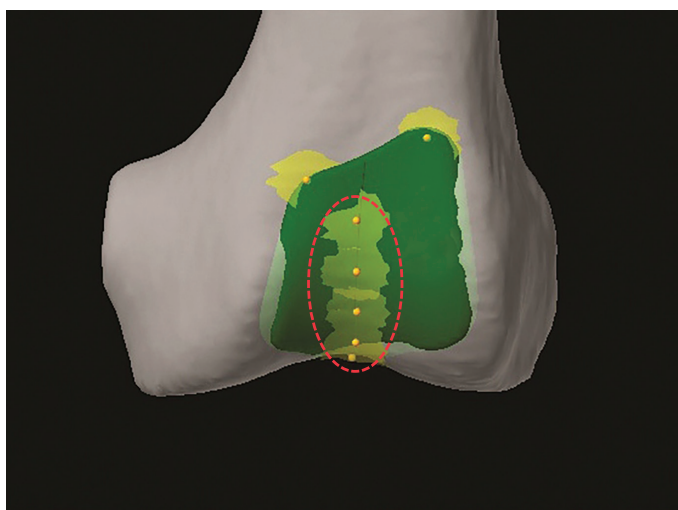

Figure 9a
2. In the sagittal quadrant, the deepest point of the trochlear groove of the implant should rest on the cartilage mapped in the trochlear groove. To fine-tune, place the crosshair at the superior-lateral flange tip of the implant to set the rotation anchor, manually scroll to the deepest point of the trochlear groove, and adjust flexion/extension as required (figure 9a).